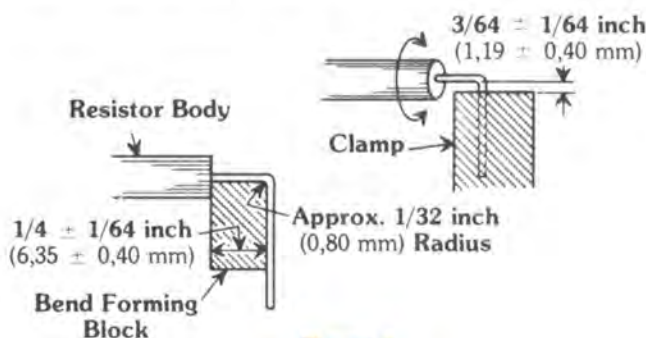

Figure 3
6.13.1.2 Twist — Following the test in 6.13.1.1, the leads shall be bent 90° at a point $1/4 \pm 1/64$ inch ($6,35 \pm 0,40$ mm) from the resistor body with the radius of curvature at the bend approximately $1/32$ inch (0,80 mm). The free end of the lead shall be clamped at a point $3/64 \pm 1/64$ inch ($1,19 \pm 0,40$ mm) away from the bend. See Figure 3. The